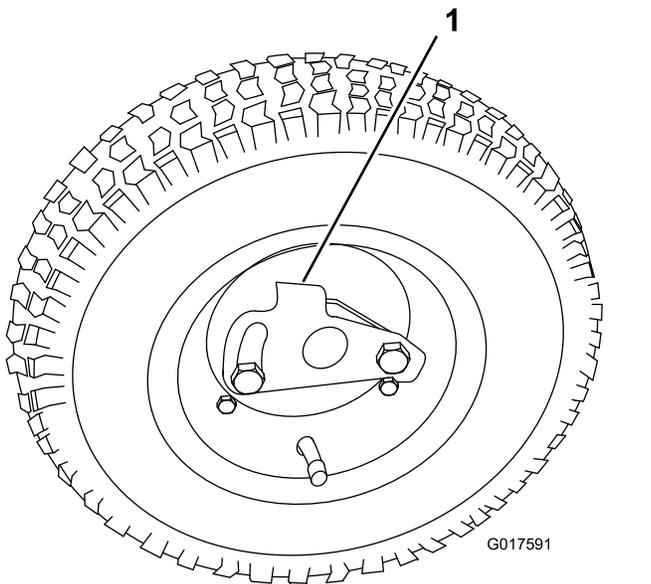

Figure 10
3. Pivot the wheel locking clip away from center of the wheel allowing it to slide farther onto the axle (Figure 10).